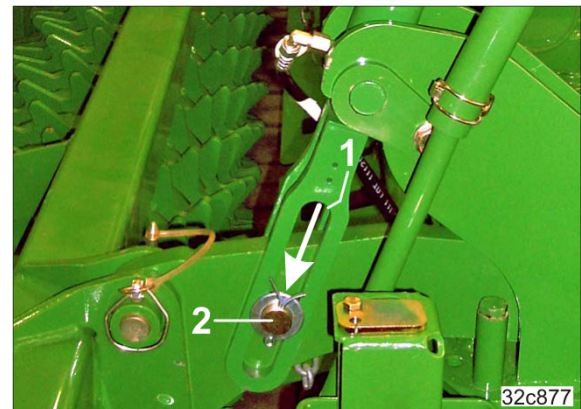

Fig. 111
- The fork (Fig. 111/1) presses against the pin (Fig. 111/2) and fixes the carrying arms.